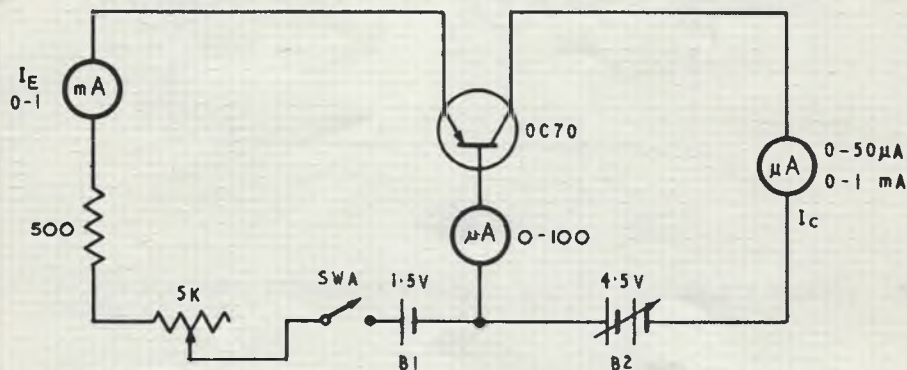

FIG. 1.
- STEP 1. Connect the circuit as shown in Fig. 1.